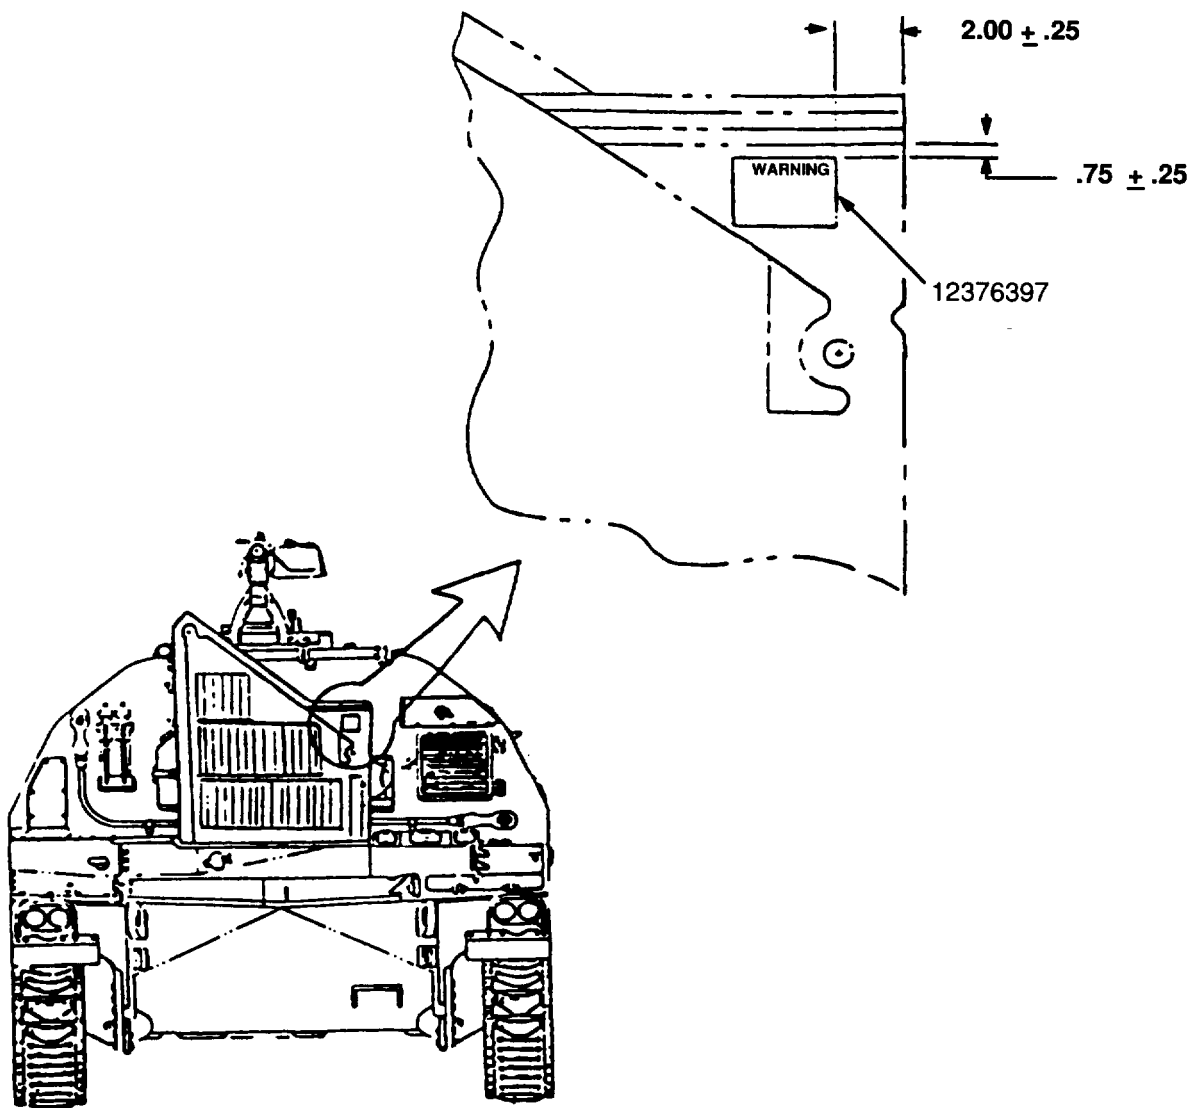

Figure 6
21. Clean the surface area at the top right (as viewed from the front) of the intake grille with detergent (see Figure 6).
22. Remove the protective backing from label 12376397* and position as shown in Figure 6.